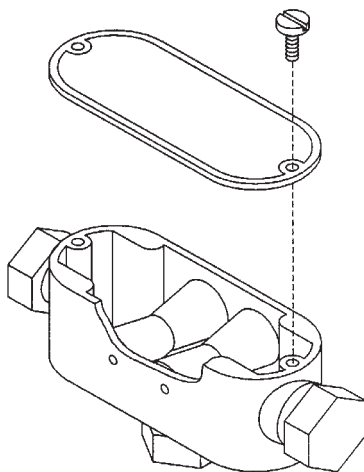

FIGURE 22
- The Model TP-1 tee pulley is used to connect two remote mechanical pull stations to a single control head. The tee pulley replaces two standard 90° corner pulleys. See Figure 22.